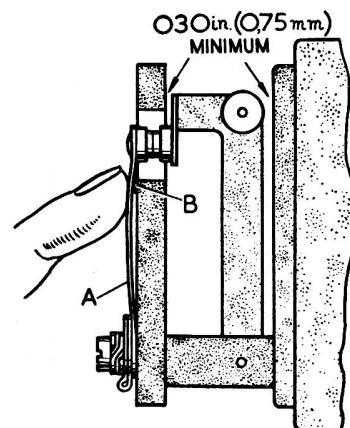

Fig.3.8. Checking the gap of the rollers
- 9 Check the gap between the white rollers and the coil housing, as shown in Fig.3.8, by holding the spring blade against the projection "B". The tip of the blade should be "set" to obtain the correct clearance.